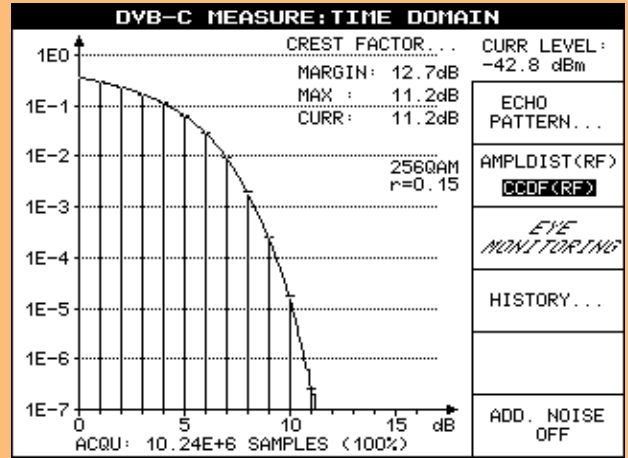

Fig. 11: History function
- ◆ History function: long-term monitoring of transmission parameters (Fig. 11)